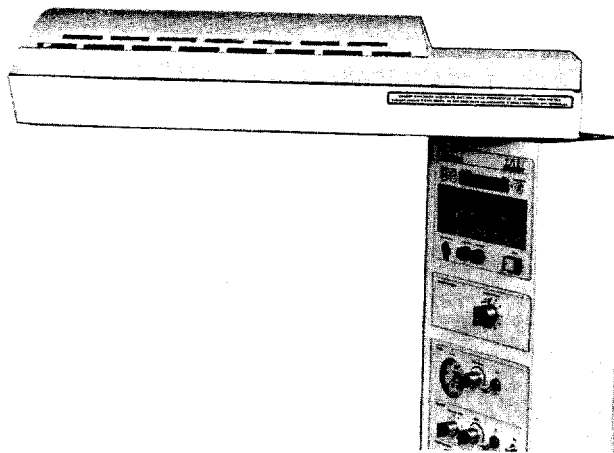

FIGURE 4.9 CHECKING THE WARMER MODULE SWIVEL
5. **CHECK THE WARMER MODULE SWIVEL OPERATION** (Figure 4.9) by rotating the Warmer Module 90 degrees to the left or right of center. Return to center position.